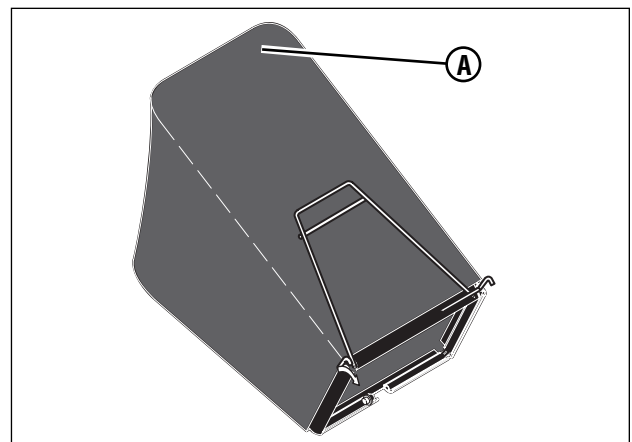

Figure 7: Closing the elastic top cover
4. Close the elastic top cover **(A, Figure 7)**. When operating the mower with the grass bag, the elastic top cover must be in the closed operating position.